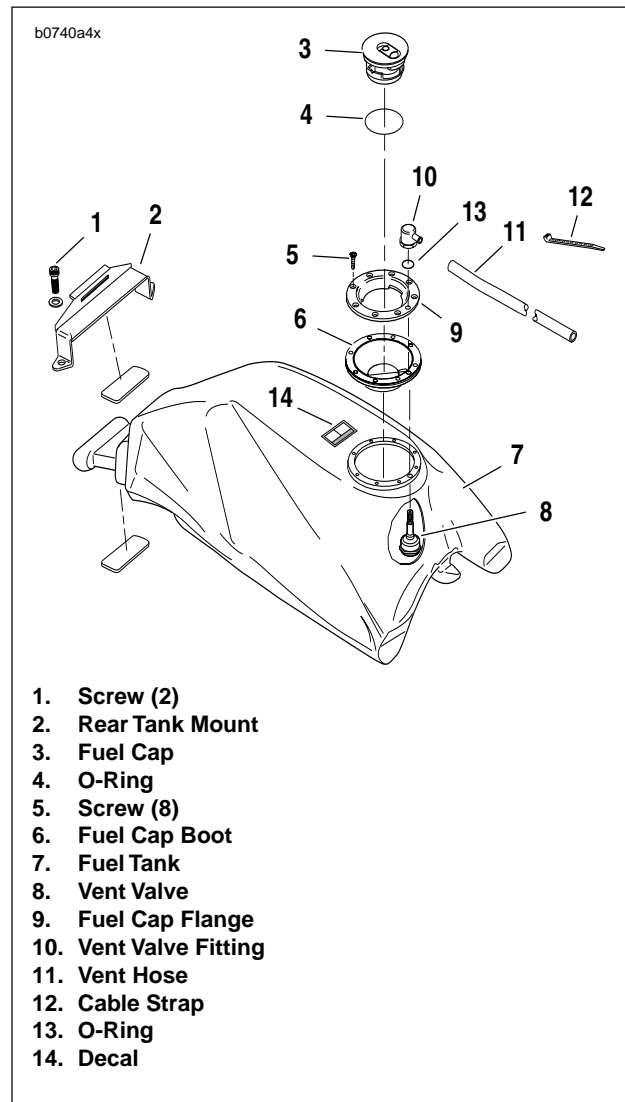
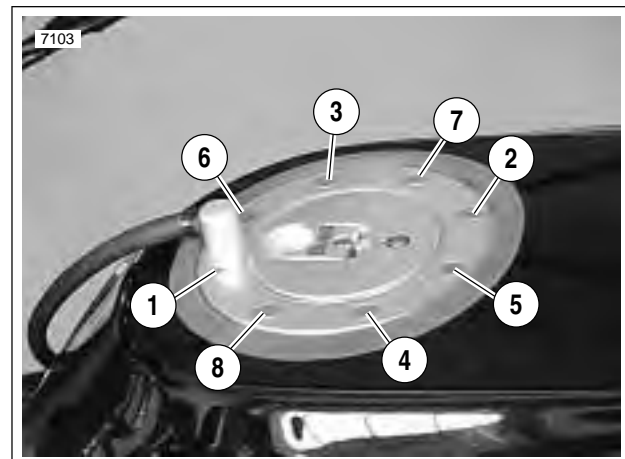

Figure 4-90. Fuel Tank
Figure 4-91. Tightening Sequence (Typical)
2. See Figure 4-90. Remove fuel filler cap (3) with attached O-ring (4).
3. Remove screws (5) from fuel cap flange (9).
4. Remove fuel cap flange and fuel cap boot (6).
5. Detach vent valve fitting (10) and vent valve (8) from fuel cap flange.
- b. See Figure 4-91. Tighten screws to 16-18 in-lbs (1.8-2.0 Nm) in the order shown.
2. See Figure 4-90. Connect vent hose (11) to vent valve fitting (10). Clamp hose to fitting with a **new** cable strap (12).
4. See Figure 4-90. Cut cable tie holding vent hose to fitting and remove vent hose from fuel tank.
4. See Figure 4-90. Install **new** O-ring in groove on bottom of **new** fitting.
- See Figure 4-90. Attach vent hose to nozzle on fitting with **new** cable tie.